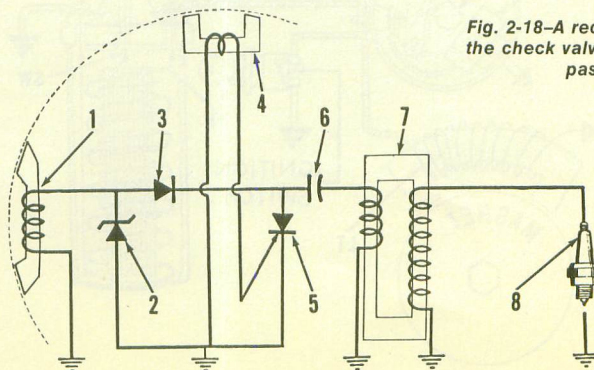

Fig. 2-16A-Schematic diagram of a typical Capacitor Discharge "Solid State" Ignition system.
Fig. 2-16A shows a circuit diagram of a typical single cylinder, capacitor discharge, breakerless ignition system using permanent flywheel magnets as the energy source. The magnets pass by the input generating coil (1) to charge the capacitor (6), then by the trigger coil (4) to open the gate and permit the discharge pulse to enter the pulse transformer (7) and generate the spark which fires the plug (8). Only half of the generated current passes through diode (3) to charge the capac-